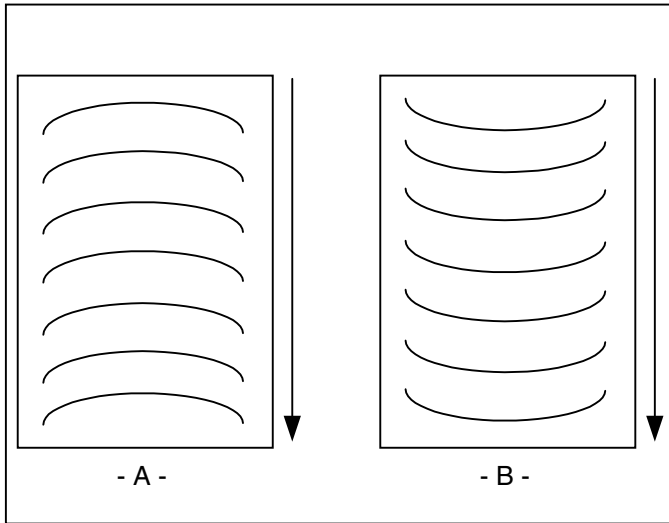

Fig. 43
1. “D” waves in the image (Figure 43 A).
2. “D” waves in the laminate (Figure 43 B).